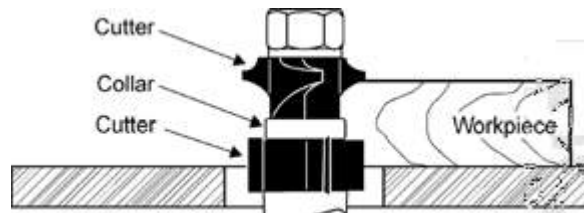

Figure 44
- Using the collar between the two cutters has the advantages and disadvantages of the first two procedures and is frequently used where both edges of the work are to be molded, Figure 44.